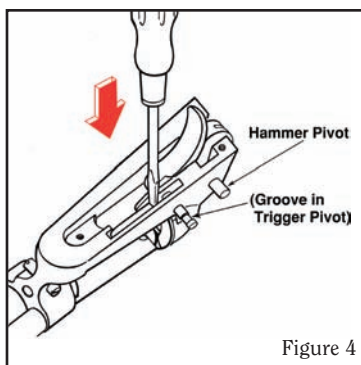

Figure 4
6. Remove the trigger pivot (pin) as follows: using a screwdriver as shown in Figure 4, below, depress the gate detent spring so that the end of the spring which rests in one groove of the trigger pivot is free of the groove. Then, use a drift and hammer to push the pivot completely out of the frame.
2. (Refer to Figure 4, p. 20.) Align hammer in frame and insert hammer pivot with the grooved end of the pivot opposite the gate side of the frame. The long screw, when inserted opposite the gate side, will intersect the groove and lock the pivot in place. (See step number 11, p. 22.)
4. (Refer to Figure 4, p. 20.) Depress the upper arm of the gate detent spring with the tip of the screwdriver blade and install the trigger pivot. Pivot should be inserted from the gate side of the frame. The non-grooved end of the pivot should be inserted first. (It may be necessary to manipulate the trigger, the gate detent spring and the cylinder latch to align them to receive the trigger pivot.)